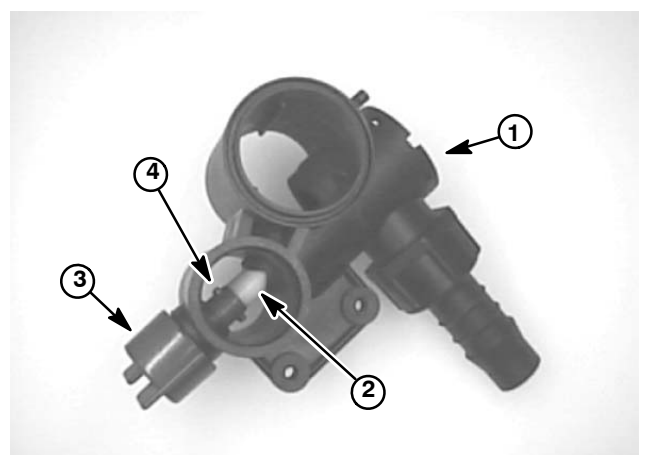

Figure 29
6. If leakage occurs from balancing valve knob at bottom of boom valve manifold (Fig. 29):
2. If boom valve manifold was disassembled (Fig. 29):